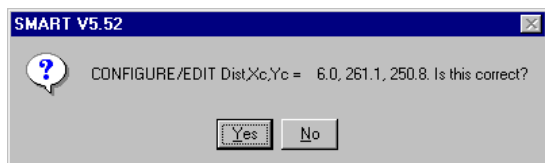

Figure 4-29. Distance and beam center verification
1. From the SMART program, click Crystal > Unit Cell. The following message appears, asking you to verify that the distance and beam center are correct (Figure 4-29).